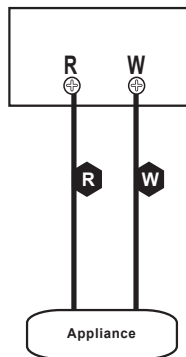

Figure 22.2
5. Connect your thermostat wire to the W and R terminals (Figure 22.2).